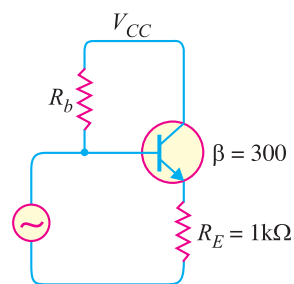

Fig. 13.31
7. In Fig. 13.31, if input and output impedances without feedback are $2\text{ M}\Omega$ and $500\ \Omega$ respectively, find their values after negative voltage feedback. [302M Ω ; 1.6 Ω]